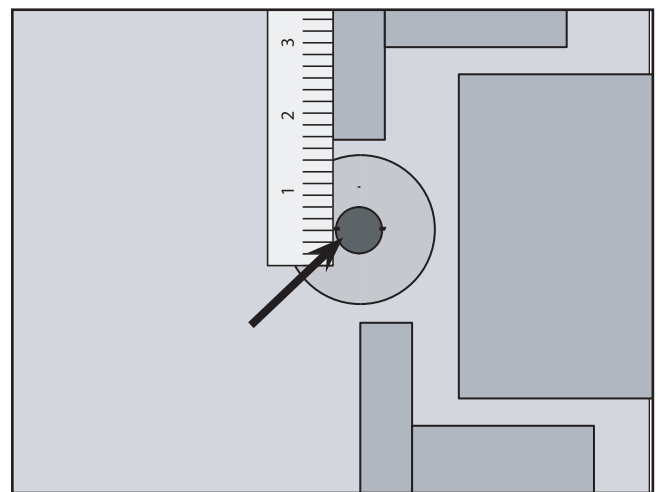

Figure 16. Jointing setup.
3. Adjust the outfeed fence even with the left edge of the router bit (**Figure 16**).